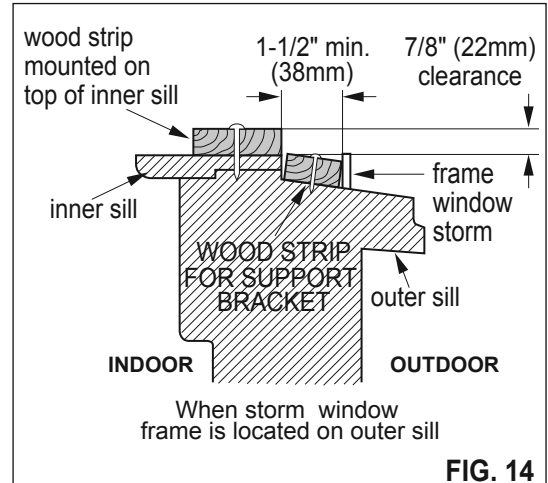

FIG. 14
- \* If storm window presents interference, fasten a 2" (51mm) wide wood strip to the inner window sill across the full width of the sill. The wood strip should be thick enough to raise the height of the window sill so that unit can be installed without interference from the storm window frame, See FIG.14. Top of wood strip should be approximately 7/8" (22mm) higher than the storm window frame to help condensation to drain properly to the outside.
- \* Install a second wood strip (approximately 6" (152mm) long by 1-1/2" (38mm) wide and same thickness as the first strip) in the center of the outer sill flush against the back of the inner sill. See FIG.14.